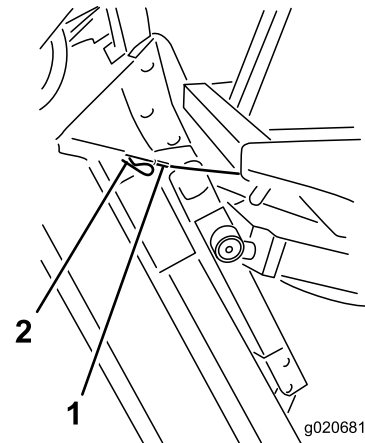

Figure 105
6. Hold the mower deck upright, fit the cable end over the pin on the mower deck lift arm, and secure it with the hairpin cotter (Figure 105).